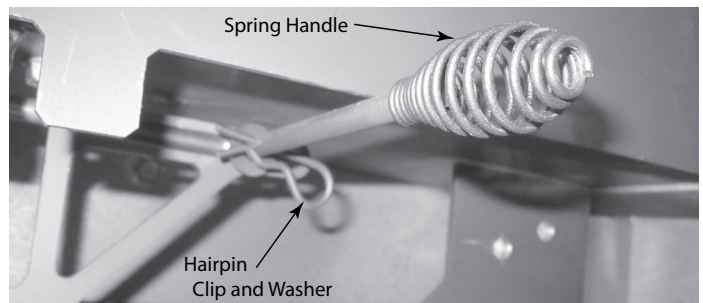

**Figure 4.28 Removal of Spring Handle**
3. Remove the spring handle by twisting it to the left and pulling on it. Hold on to the rod as this is being done. See Figure 4.28.
4. Pull off and remove the hairpin clip and the washer on the rod. See Figure 4.28.